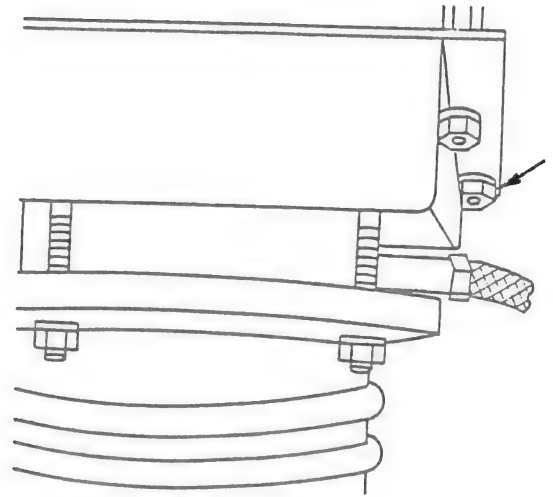

Fig. 5-11
(4) Detach the nut shown by arrow in Fig. 5-11.
(5) Hold the DP unit by hands so that it will not move.
(6) Have one worker remove the wooden blocks while the DP unit is being held by another worker as described above, and detach the DP and valve unit slowly from the console rack.